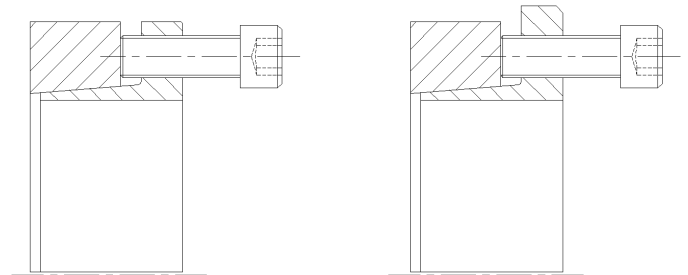

Figure 2
2. To lock out mating tapers and prevent engagement during assembly, transfer at least two or three locking screws into integrated jacking holes in front flange (see Figure 2).
3. Using the modified screws from Step 1, insert into all jacking holes located in front flange (see Figure 2).